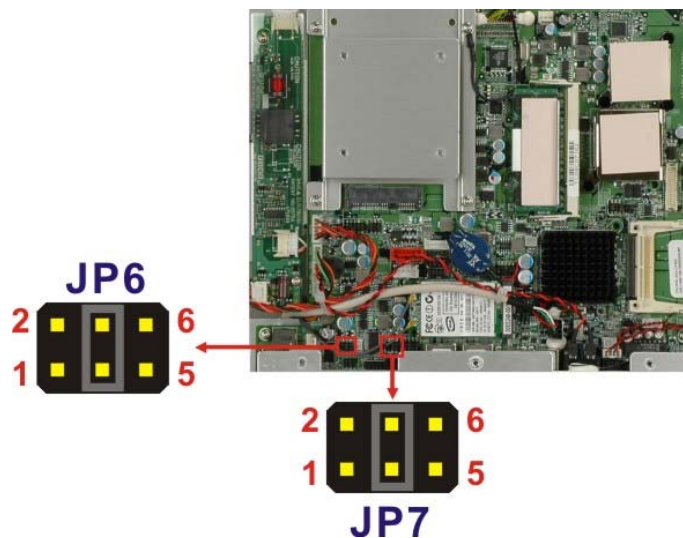

Figure 4-8: COM1 and COM3 Pin 9 Setting Jumper Locations
- Jumper Location:** See Figure 4-8
The COM1 and COM3 Pin 9 Setting jumper locations are shown in **Figure 4-8** below.